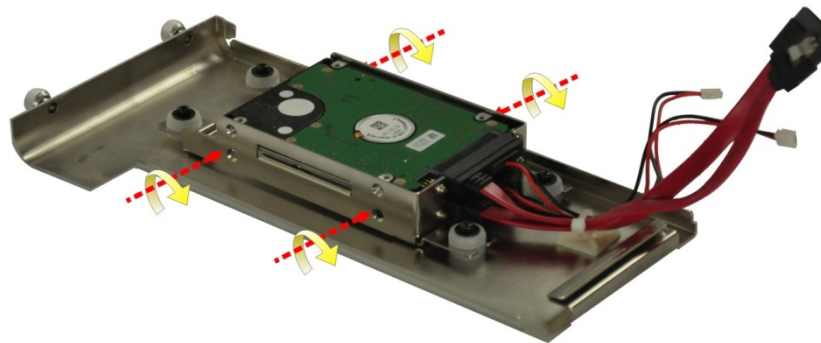

Figure 3-4: HDD Retention Screws
Step 4: Secure the HDD with the HDD bracket by four retention screws (Figure 3-4).